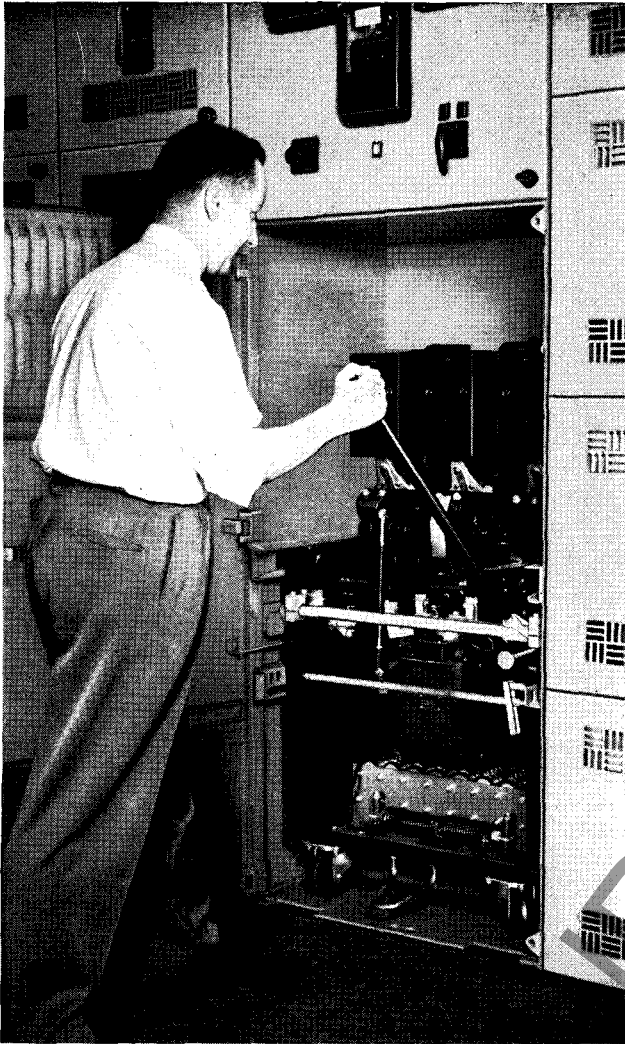

FIG. 18. Levering in a Type DA-75 Removable Element
The levering device is mounted on the truck and consists of a shaft having an eccentrically mounted pin at each end. The pins engage slots on each side of the compartment, and the levering action is obtained by rotating the shaft, using the maintenance hand closing lever supplied as an accessory. See Fig. 18.
the breaker when the compartment door is open and the removable element is either in the "test" or "disconnected" position. The lever should be removed after the closing operation. This same lever is also used to lever the removable element into, or out of, the "connected" position, as shown in Fig. 18.
7. Insert the hand-closing lever in the socket of the levering device and raise it (see Fig. 18) until the positioning stop engages and holds the removable element in the "connected" position.